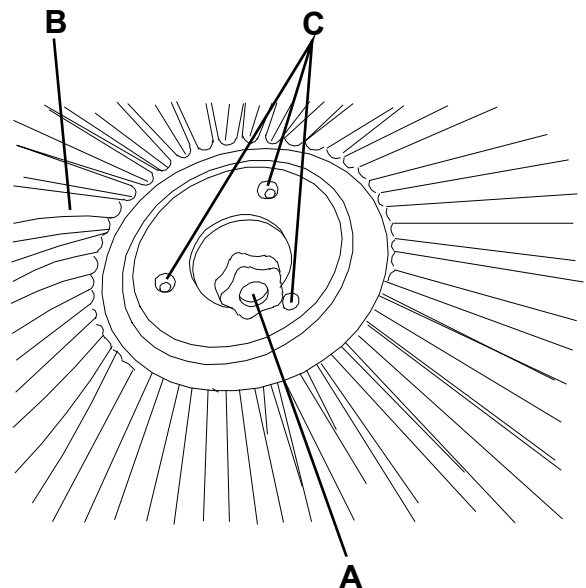

Figure 2
- Turn the main switch (1) to "0".
- Loosen the knob (A, Fig. 2) inside the side broom, then remove the broom (B) by disengaging it from the pins (C).
- Install the new broom by engaging it on the pins (C), then tighten the knob (A).